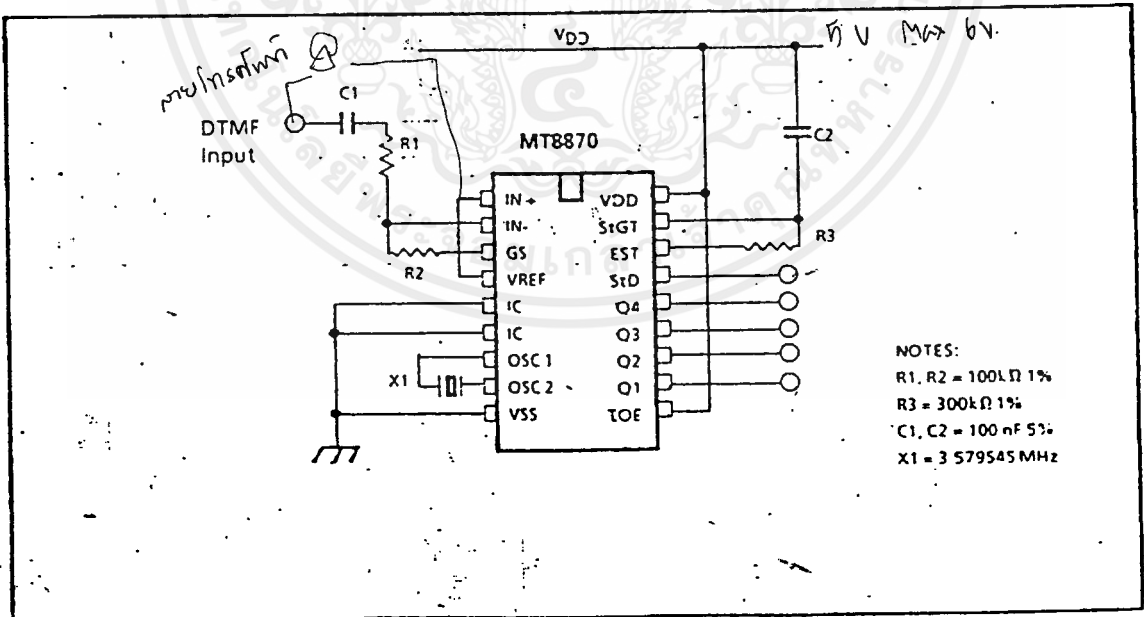
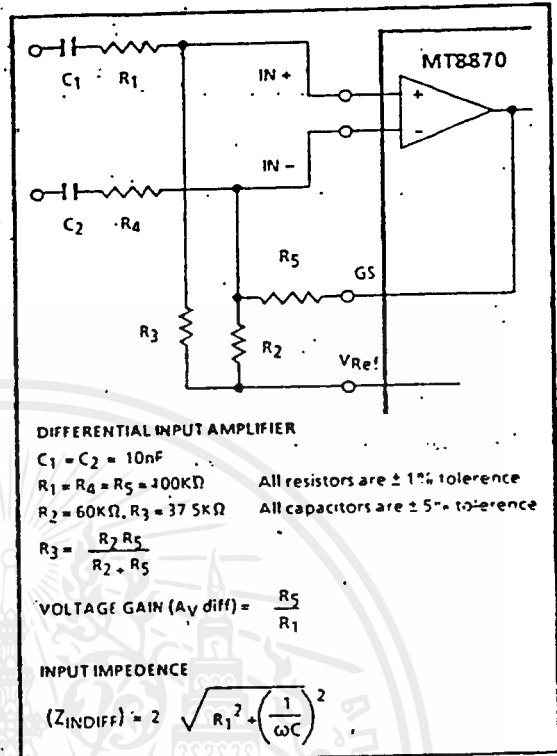
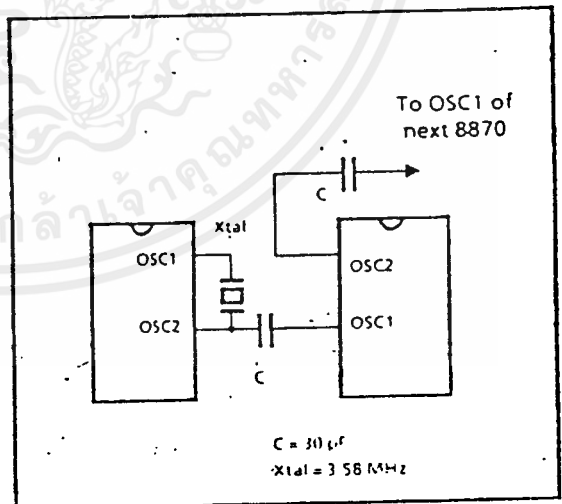

Figure 2. Single Ended Input Configuration
Figure 8. Differential Input Configuration
Figure 9. Oscillator Connection
† VDD = 5 V, VSS = 0, TA = 25° C and fC = 3.579545 MHz using test circuit shown in Figure 2
1 VDD = 5V, VSS = 0V, TA = 25°C and fC = 3.579545 MHz, using test circuit in Figure 2.
The input arrangement of the MT8870 provides a differential-input operational amplifier as well as a bias source ( $V_{REF}$ ) which is used to bias the inputs at mid-rail. Provision is made for connection of a feedback resistor to the op-amp output (GS) for adjustment of gain. In a single-ended configuration, the input pins are connected as shown in Fig. 2 with the op-amp connected for unity gain and  $V_{REF}$  biasing the input at  $1/2 V_{DD}$ . Fig. 8 shows the differential configuration, which permits the
The internal clock circuit is completed with the addition of an external 3.58 MHz crystal and is normally connected as shown in Figure 2 (Single Ended Input Configuration). However, it is possible to configure several MT8870 devices employing only a single oscillator crystal. The oscillator output of the first device in the chain is coupled through a 30 pF capacitor to the oscillator input (OSC1) of the next device. Subsequent devices are connected in a similar fashion. Refer to Fig. 9 for details. The problems associated with unbalanced loading are not a concern with the arrangement shown, i.e. precision balancing capacitors are not required.